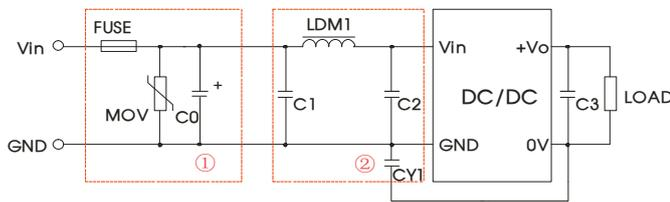

Fig. 3
Notes: We use Part ① in Fig. 3 for immunity and part ② for emissions test. Selecting based on needs.